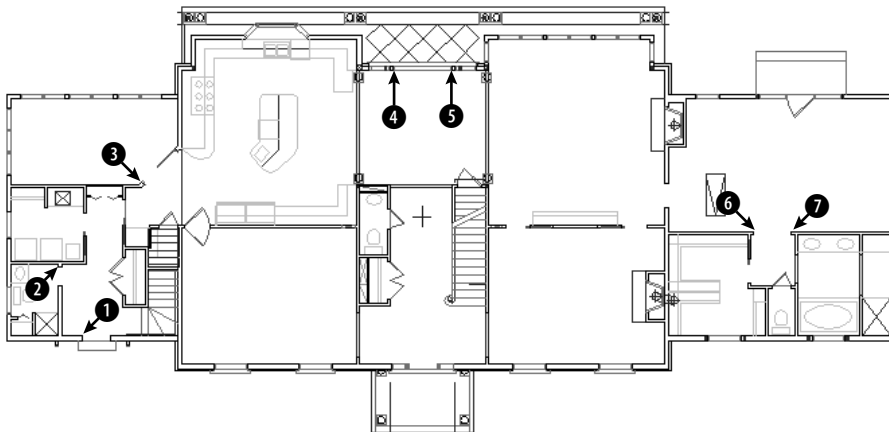

Figure 18-10: The floor plan of the house needs some doors and a new toilet.
2. Save the file as `ab18-03.dwg` in your AutoCAD Bible folder. This is the floor plan of the first floor of a house, as shown in Figure 18-10. Many of the doors and a toilet need to be inserted. OSNAP should be on. Set running object snaps for endpoint and midpoint. The current layer is Door.
PRotate]: Use the Endpoint object snap to pick ① in Figure 18-10.
6. Repeat the INSERT command. The Insert dialog box already shows the DOOR block. Click OK. Follow the prompts. You'll probably want to use Zoom Window to zoom into the area of ② in Figure 18-10.
[Scale/X/Y/Z/Rotate/PScale/PX/PY/PZ/PRotate]: Pick ② in Figure 18-10.
7. If you zoomed in for the previous step, return to the previous view using Zoom Previous. Zoom in to the area around ③ in Figure 18-10. Choose Insert Block from the Draw toolbar. Click OK. Follow the prompts:
P Rotate]: Pick ③ in Figure 18-10.
8. Use Zoom Dynamic to zoom in to the area around ④ and ⑤ in Figure 18-10. Choose Insert Block from the Draw toolbar. Click OK. Follow the prompts:
[Scale/X/Y/Z/Rotate/PScale/PX/PY/PZ/P Rotate]: Pick ④ in Figure 18-10.
[Scale/X/Y/Z/Rotate/PScale/PX/PY/PZ/P Rotate]: Pick ⑤ in Figure 18-10.
10. Use Zoom Dynamic to zoom in on the area around ⑥ and ⑦ in Figure 18-10. Start the INSERT command and click OK. Follow the prompts:
P Rotate]: Pick ⑥ in Figure 18-10.
P Rotate]: Pick ⑦ in Figure 18-10.